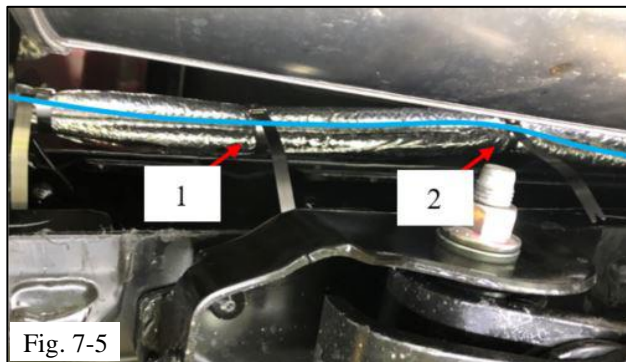
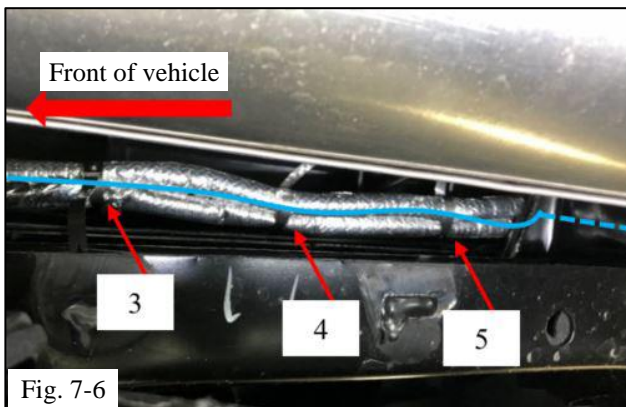

Fig. 7-5
Fig. 7-6
- (h) Use the metal wire ties #1, #2, #3, #4, and #5 to secure the body wire harness to the vehicle wire harness toward the rear of the vehicle (Fig. 7-5 & Fig. 7-6).